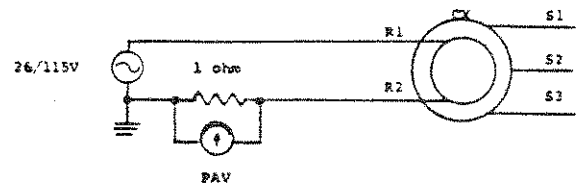

Figure 7-5. Input Current Test (CX)
- a. Set up equipment as shown in figure 7-5